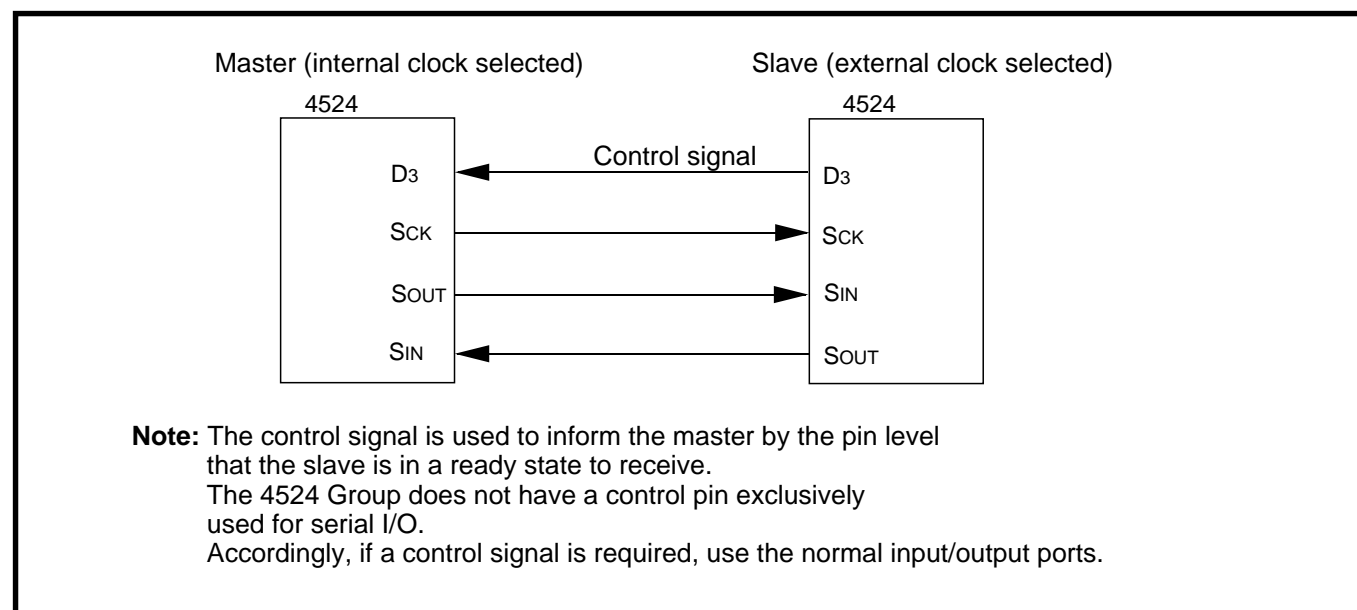
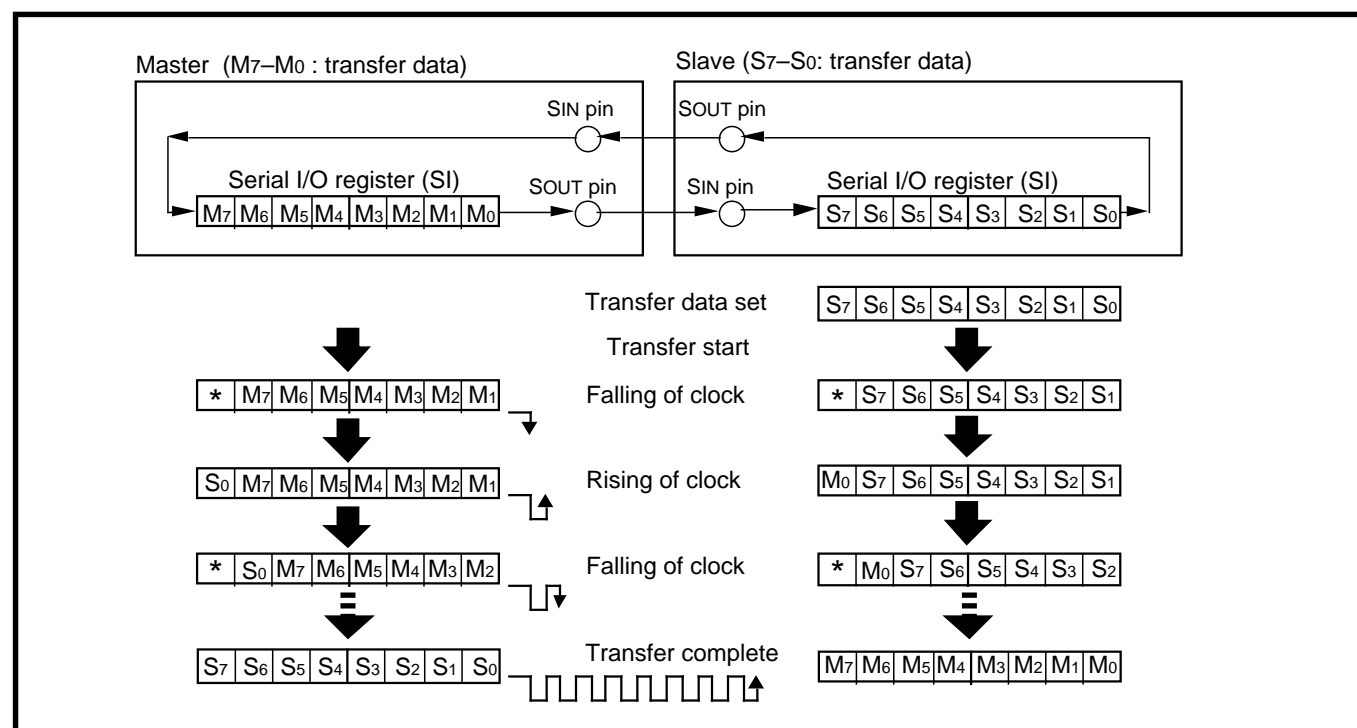

Fig. 2.5.2 Serial I/O connection example
Fig. 2.5.3 Serial I/O register state when transfer
Figure 2.5.2 shows the serial I/O connection example, Figure 2.5.3 shows the serial I/O register state, and Figure 2.5.4 shows the serial I/O transfer timing.
The full duplex communication of master and slave is described using the connection example shown in Figure 2.5.2.
In the connection example in Figure 2.5.2, check that the input level of control signal is "L" level.
- ② Start serial transmit/receive with the **SST** instruction. However, in Figure 2.5.2 where an external clock is selected, transmit/receive is not started until the clock is input. When the **SST** instruction is executed, the serial I/O transmit/receive completion flag (SIOF) is cleared to "0."
- ③ The microcomputer on the master side is informed that the receiving side is ready to receive. In the connection example in Figure 2.5.2, the control signal "L" level is output.
- ④ The transmit data is output from the SOUT pin synchronously with the falling edges of the shift clock.
- ⑤ The transmit data is output bit by bit beginning with the LSB of register SI. Each time one bit is output, the contents of register SI are shifted to one bit position toward the LSB.
- ⑥ Also, the receive data is input from the SIN pin synchronously with the rising edges of the shift clock.
- ⑦ The receive data is input bit by bit to the MSB of register SI.
- ⑧ A serial I/O interrupt request occurs when the transmit/receive is completed, and the SIOF flag is set to "1."
- ⑨ Read the receive data within the serial I/O interrupt service routine; or read the data after examining the completion of the transmit/receive operation with the **SNZSI** instruction without using an interrupt. Also, the SIOF flag is cleared to "0" when an interrupt occurs or the **SNZSI** instruction is executed.
- ⑩ Set the control signal pin level to "H" after the receive operation is completed.
Specifications: Figure 2.5.2 Serial I/O connection example.